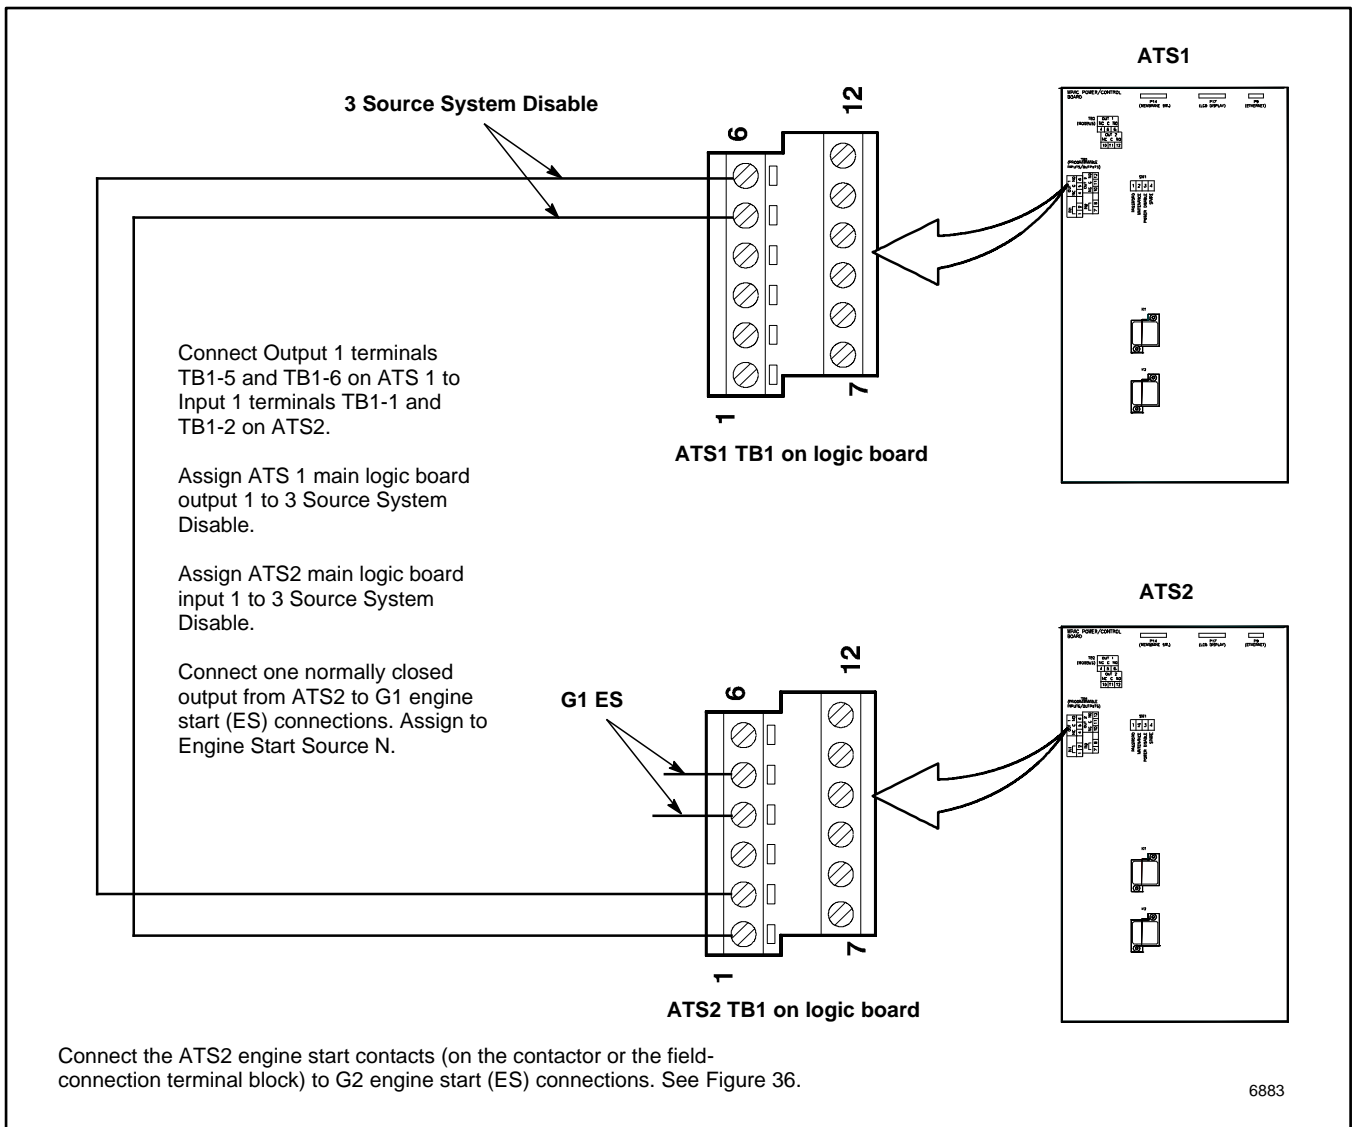

Figure 37 Input and Output Connections for Three-Source Systems
See Figure 36 and Figure 37 for connections during the following steps.
2. Three-source systems require the following input/ output connections to control the engine start commands for generator sets 1 and 2. Observe the polarity of all connections shown in Figure 37. Use wire sizes from #14 AWG to #20 AWG for EBSM and I/O module connections.
- b. Connect one ATS1 programmable output from the controller to one ATS2 main logic board programmable input as shown in Figure 37. This I/O connection will be set to Three-Source System Disable.